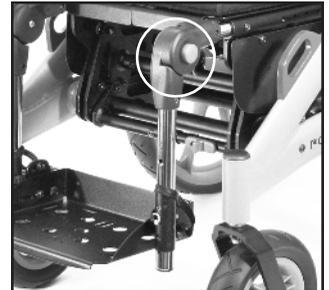

Fig. 118
1. Place your hand on the grey button located at the knee joint. Fig. 118